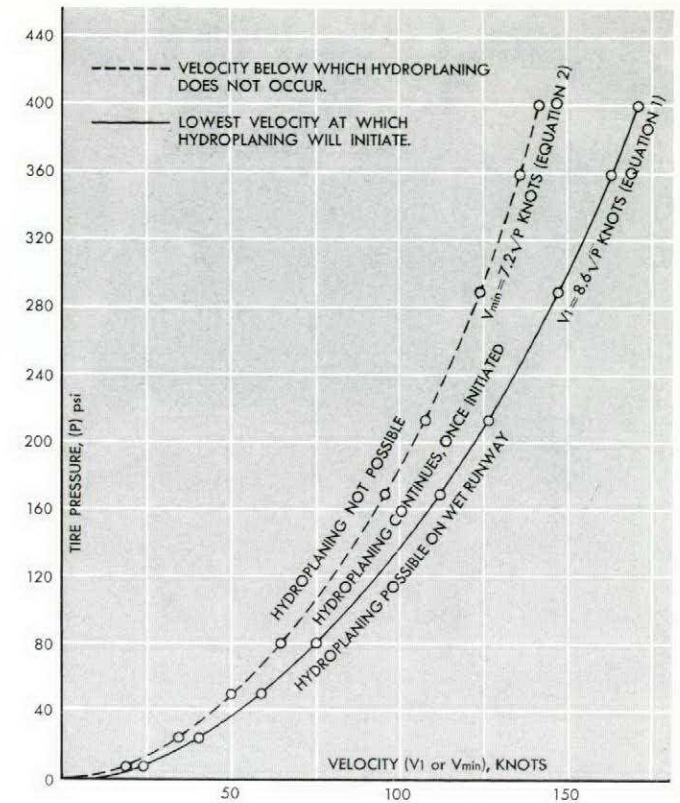

FIG. 1. RELATIONSHIP BETWEEN HYDROPLANING VELOCITY AND TIRE INFLATION PRESSURE. (TIRE TREAD DESIGN NEGLECTED.)
Tire pressure is a factor in considering prevention of aquaplaning. Figure 1, equation (1) shows that if a tire is moving at 140 - 145 knots the pressure must be 290 psi to prevent aquaplaning. In the case cited, the tire pressure was 158 lb/in² and according to equation (2) this tire, once aquaplaning, would not stop until 90 knots or less was reached. The ultimate high pressure of a tire is limited but the importance of maintaining the correct tire pressure is very evident. Similarly equations can be derived specifically for cars. However, the figure shows the aquaplaning of a car tire could start at 43 knots (48.4 mph) if the tire pressure is 24 lb/in² and continue to 35 knots or 40 mph.